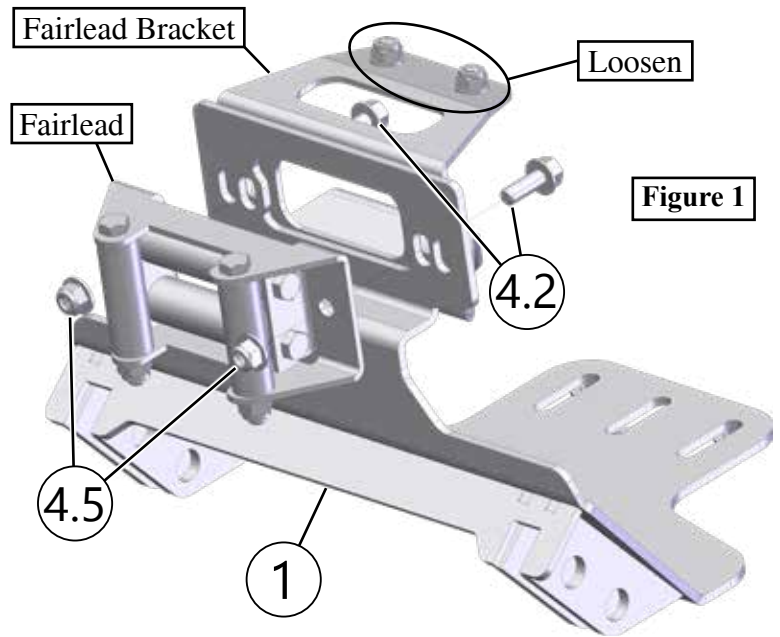

Figure 1
2. Set plow mount (1) in place and loosely secure fairlead and plow mount (1) to fairlead bracket of the winch mount using bolts (4.2) and nuts (4.5) as shown in **Figure 1**.